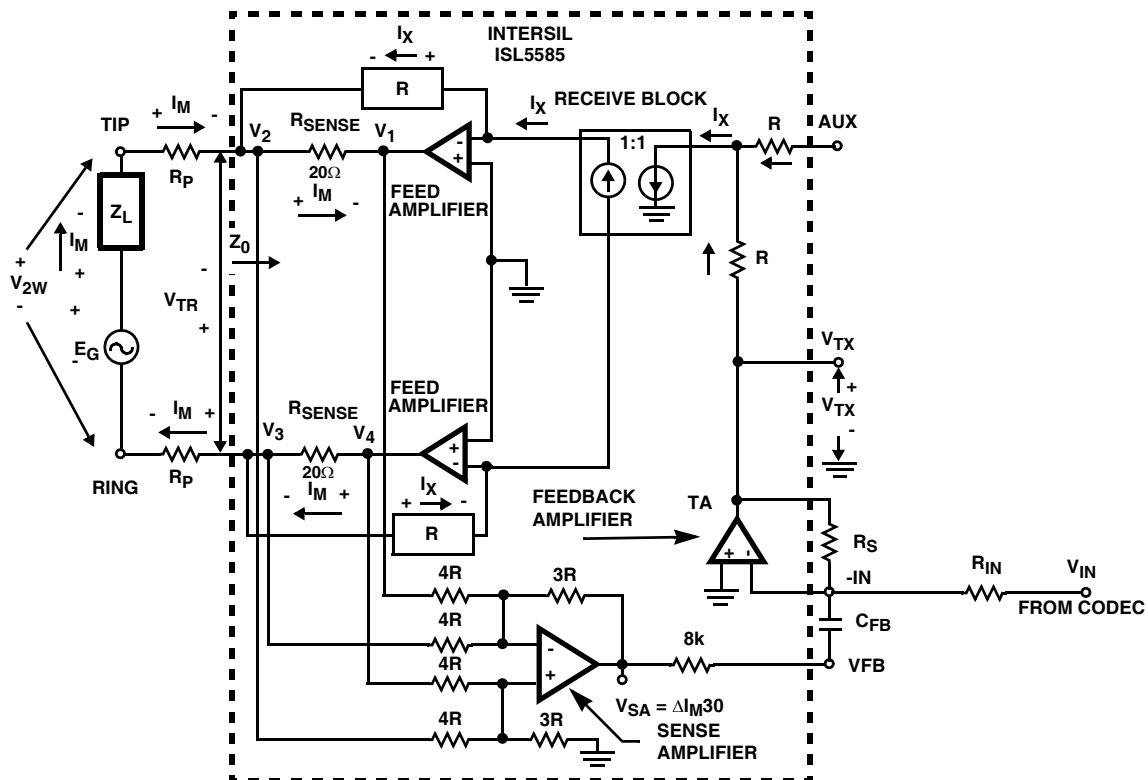

FIGURE 4. AC SIGNAL TRANSMISSION MODEL
The feedback mechanism for monitoring the AC portion of the loop current consists of two amplifiers, the Sense Amplifier (SA) and the Transmit Amplifier (TA). The AC feedback signal is used for impedance synthesis. A detailed model of the AC feed back loop is shown in Figure 4.
The Sense Amplifier is configured as a 4 input differential amplifier with a gain of 3/4. The voltage at the output of the sense amplifier (V_{SA}) is calculated using superposition. V_{SA1} is the voltage resulting from V_1 , V_{SA2} is the voltage resulting from V_2 and so on (reference Figure 4).
V_{TR} is defined in Figure 4, note polarity assigned to V_{TR} :
Node Equation at ISL5585 AUX input, Figure 4
4-wire to 2-wire gain across the ISL5585 is equal to the V_{2W} divided by the input voltage V_{IN} , reference Figure 4. The receive gain is calculated using Equation 32.
The 2-wire to 4-wire gain is equal to V_{TX}/E_G with $V_{IN} = 0$, reference Figure 4.